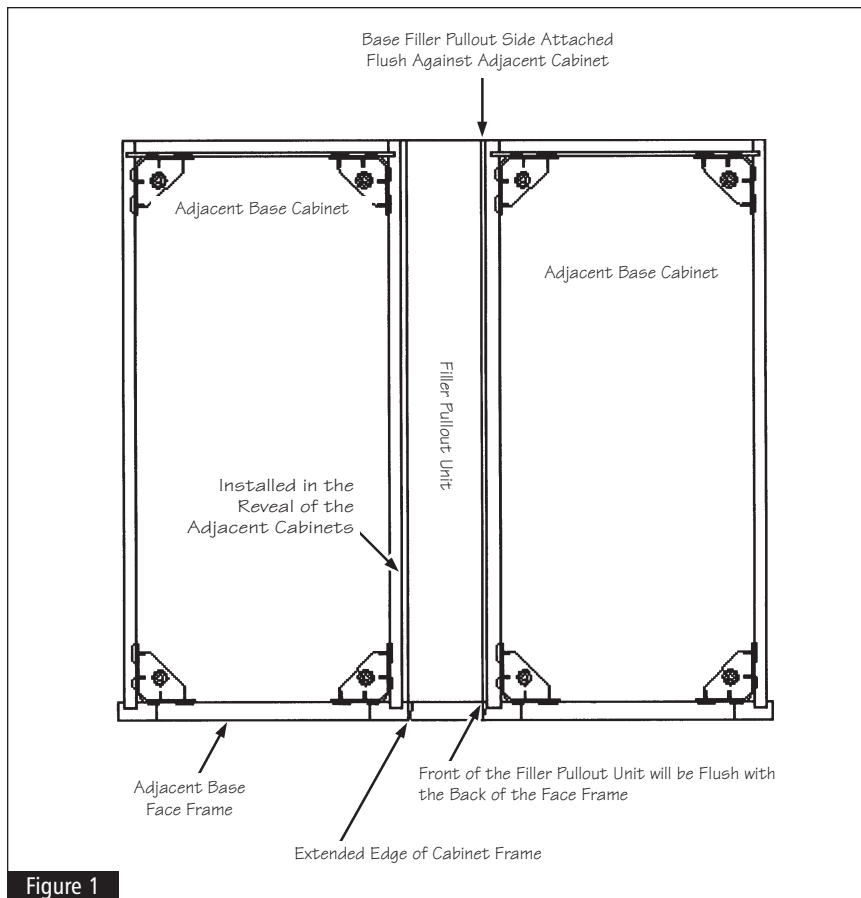

Figure 1
- 1** Your Base Filler Pullout is designed to be installed between two cabinets. Note that the face frame of the adjacent cabinets extend slightly beyond the side of the cabinet. The base of the filler pullout will be installed behind the exposed edge of the face frame and snug against the front and side of the adjacent cabinets. Begin by placing your base filler pullout in between the two base cabinets it will be installed next to. See Figure 1 for this location.